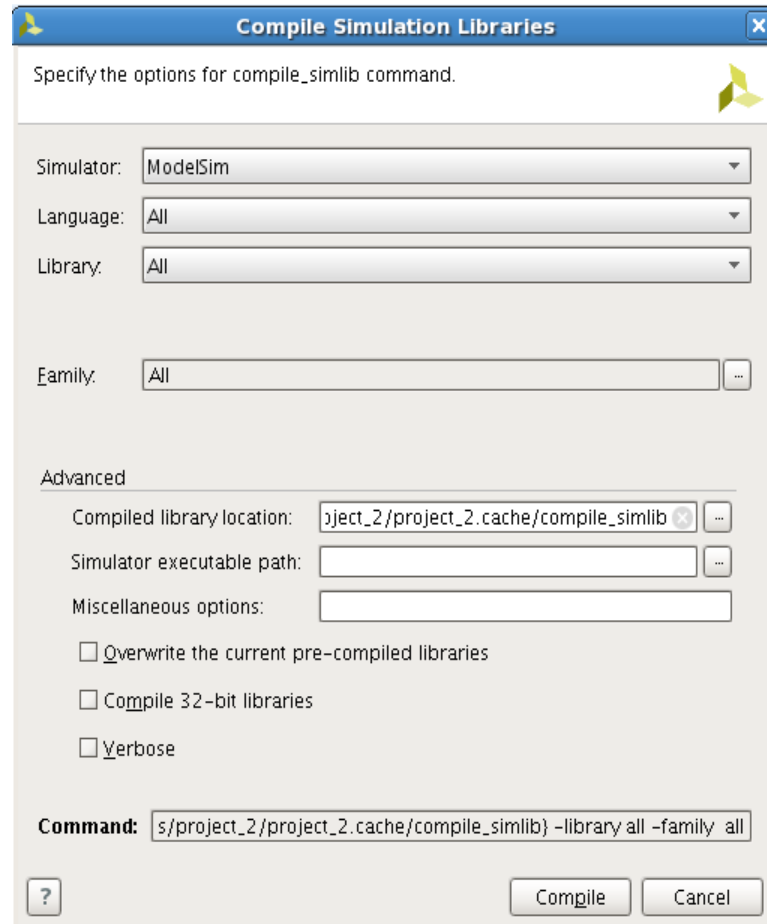

Figure 2-2: Compile Simulation Libraries Dialog Box
1. Select **Tools > Compile Simulation Libraries** to open the dialog box shown in Figure 2-2.